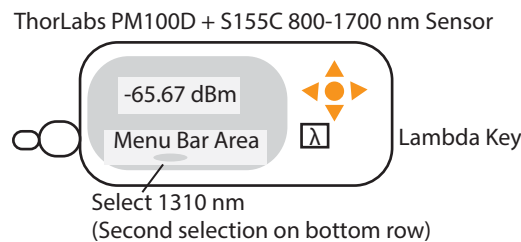

Figure 3-15. Power Meter QP 1310 nm Configuration
- a. On Front Panel select **Lambda** button as shown in Figure 3-15.
- c. On PM100D Meter select **OK** to choose 1310 nm selection, as shown in Figure 3-15.